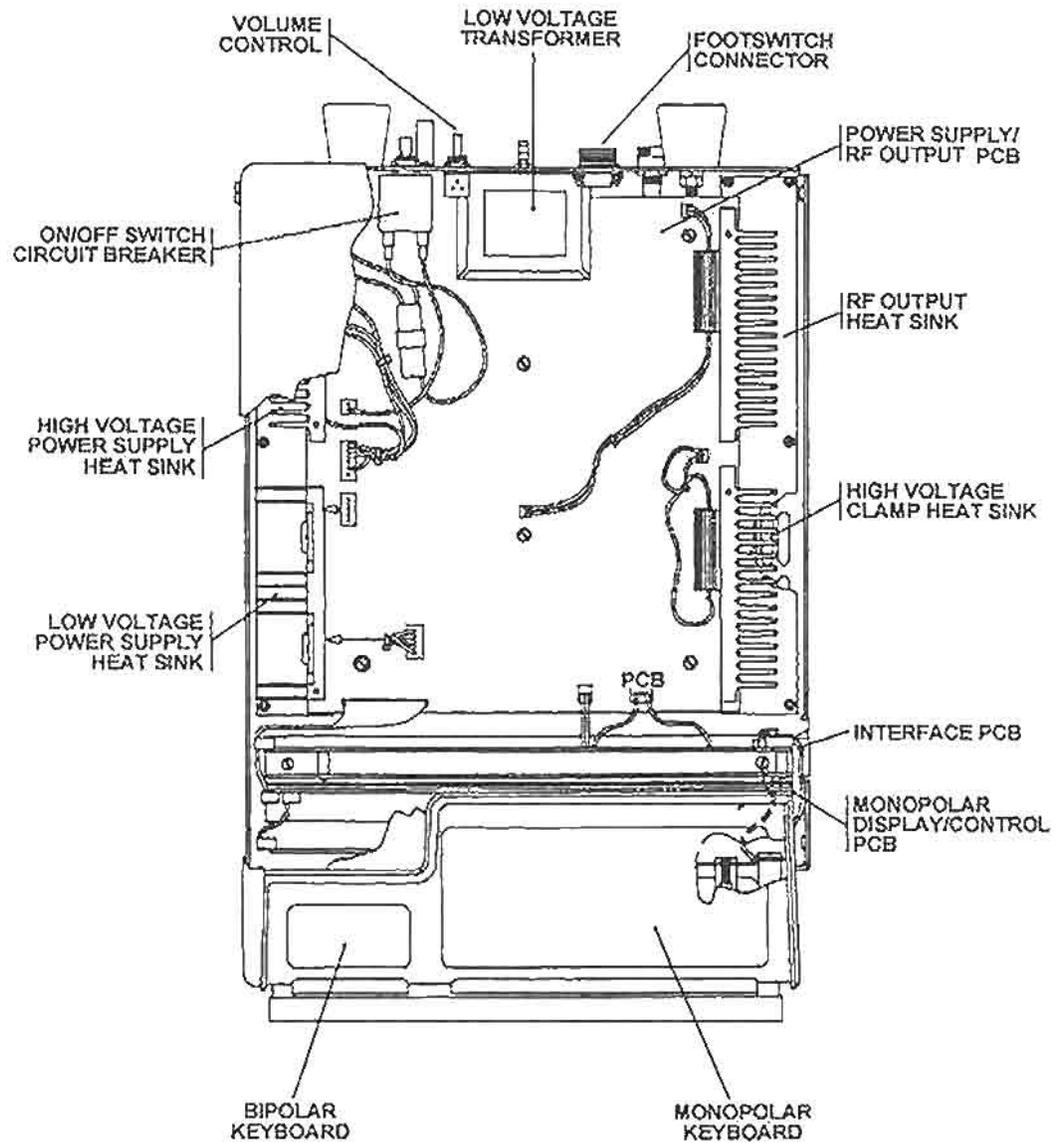

Figure 4-23. Assembly, PCB, and component locations.
- c. Illustrations showing major assembly, PCB, and component locations are provided in figure 4-23.